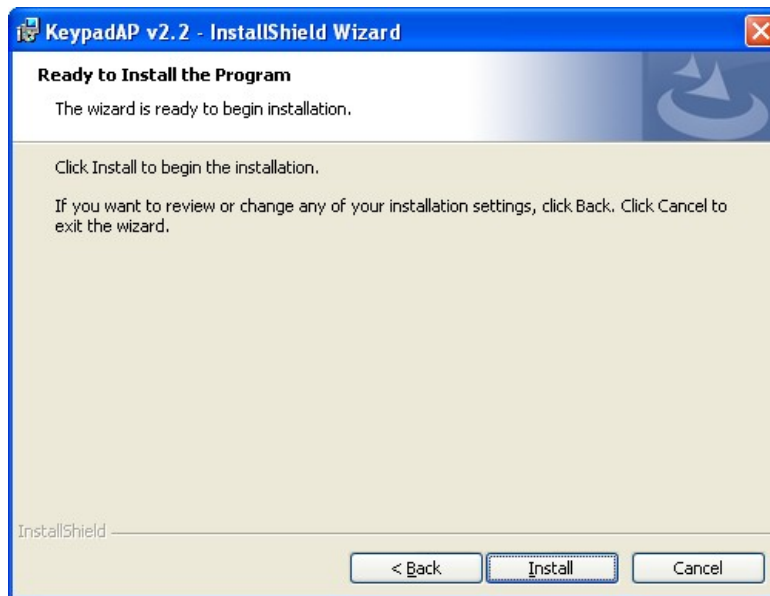

Figure 6-37: Ready to Install the Program
Step 9: Click **INSTALL** to continue (Figure 6-37).